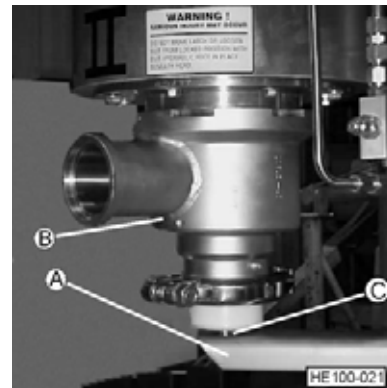

Figure 36- Location Of Hydraulic Arm For Removal
3. Lower arm of hydraulic lift so that arm can be positioned under opposite drive end head. (See Figure 36, Item A).
4. Raise arm of hydraulic lift to just below opposite drive end head (See Figure 36, Item B) and position lift pin (See Figure 36, Item C) to go into shaft nut.